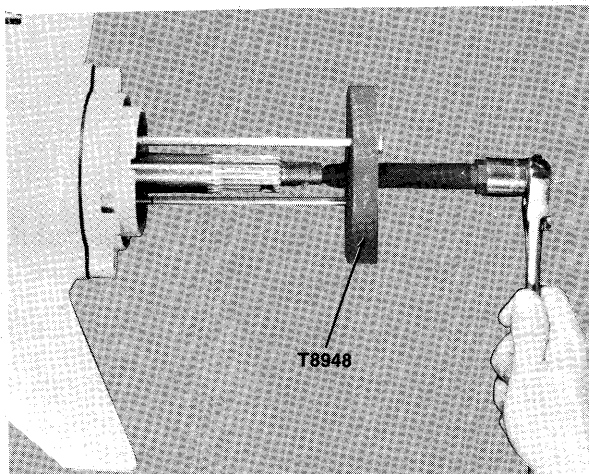

Figure 16—Removing Bearing Cage Assembly
- Remove two (2) hex socket head cap screws securing bearing cage assembly to gear housing—lower.
- Install puller (Special Tool T8948) as shown in figure 16 and remove bearing cage assembly.